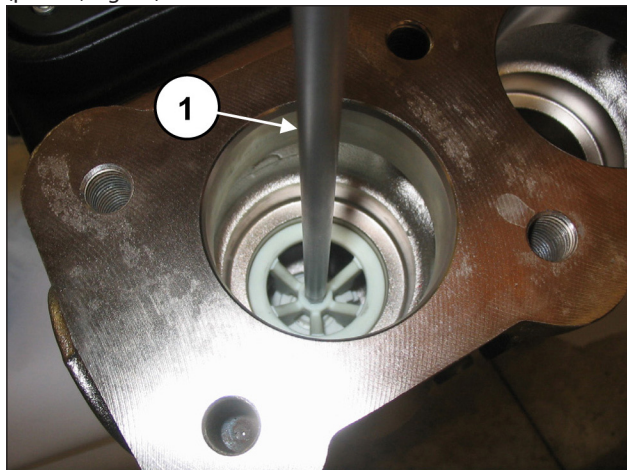

Fig. 83
Take out the valve guide spacer using an 8 mm hex wrench (pos. ①, Fig. 83).